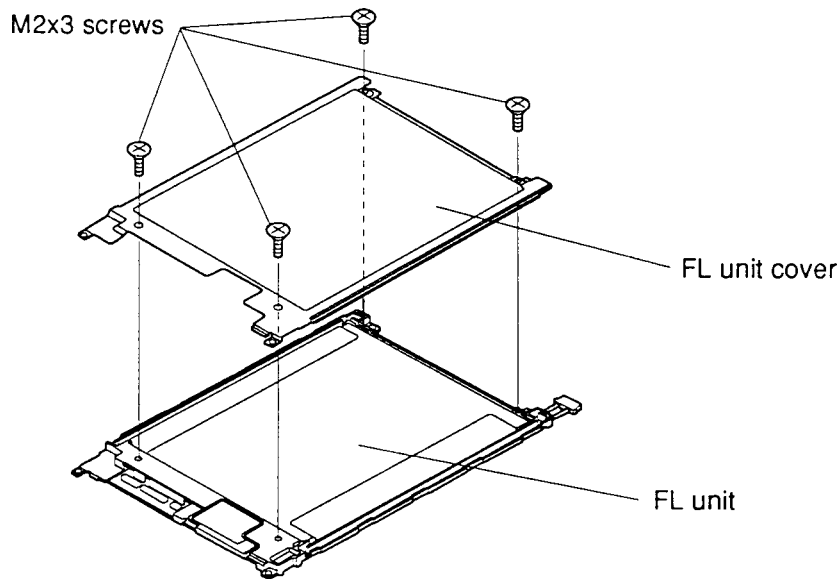

Figure 4-46 Removing the FL screws (T4700CS)
- Remove the **four M2x3 screws** securing the **FL unit** and **FL unit cover** to the back frame (figure 4-46).
2. Secure the **FL unit cover** with **four M2x3 screws** (figure 4-46).